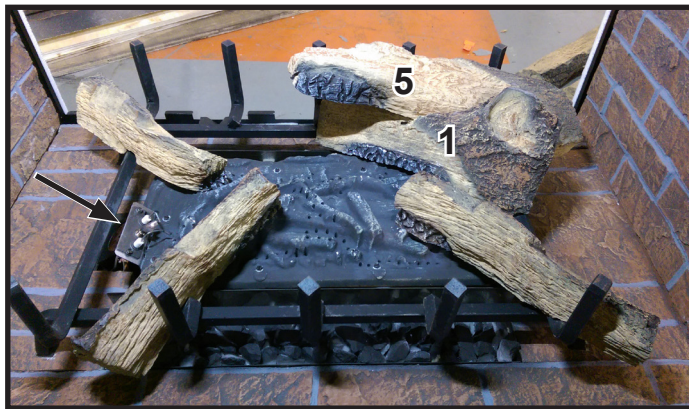
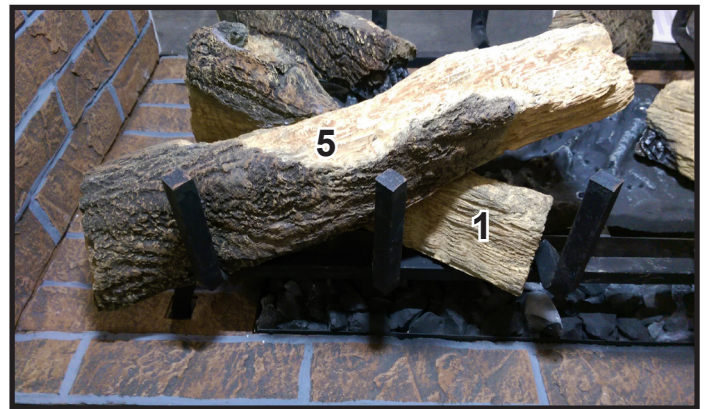

Figure 12. Log #5 from above.
Figure 13. Log #5 from rear showing resting point on log and grate tine.
**LOG NUMBER 5 (SRV2272-705):** Place Log #5 as shown. The groove on the underside of Log #5 shall rest on the far right grate tine as shown in Figure 12. The other side of the log will sit in the groove on Log #1. See Figure 13. The log must NOT block or sit directly over any burner ports.